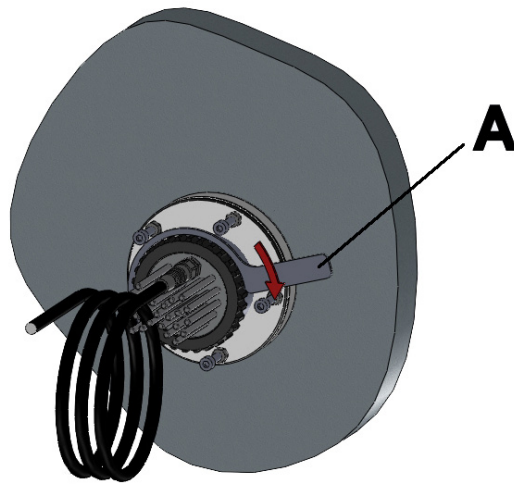

Fig.8.1
5. Remove the rear locking ring housing with the large half spanner tool. This unscrews counter clockwise. Pull the ring off the rear of the housing once removed (Fig.8.1).